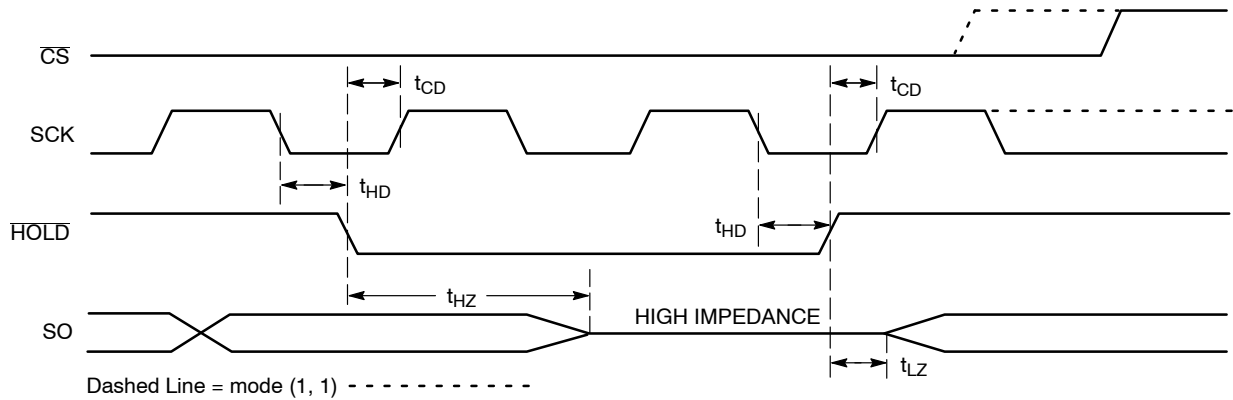

Figure 11. $\overline{\text{HOLD}}$ Timing
The $\overline{\text{HOLD}}$ input can be used to pause communication between host and CAT25080/160. To pause, $\overline{\text{HOLD}}$ must be taken low while SCK is low (Figure 11). During the hold condition the device must remain selected ($\overline{\text{CS}}$ low). During the pause, the data output pin (SO) is tri-stated (high impedance) and SI transitions are ignored. To resume communication, $\overline{\text{HOLD}}$ must be taken high while SCK is low.